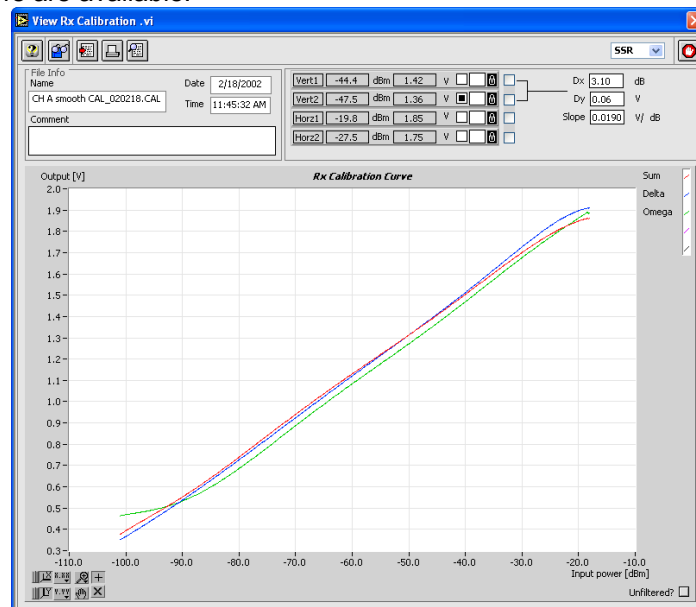

Figure 62: Viewing a receiver calibration result
1. Click the **Load**  button to select a receiver measurement file. This can either be a Rx Calibration, Rx Bandwidth or STC measurement result file. Depending on the selected radar type, the dialog will by default point to the CALIB subdirectory of the (M)SSR or PSR directory of the active campaign folder.
In the example of Figure 62 we selected an (M)SSR Radar Rx Calibration file. The calibration data is displayed in the data graph. File name, date and time are default shown.